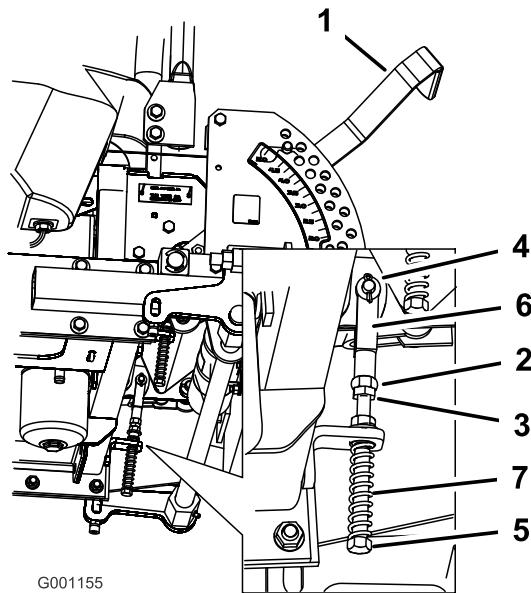

Figure 78
8. If adjustment is needed, loosen the nut and jam nut against the yoke (Figure 78).
9. Apply slight rearward pressure on the motion control lever, turn the head of the adjustment bolt in the appropriate direction until the control lever is centered in the neutral lock position (Figure 78).
10. Tighten the nut and jam nut (Figure 78).